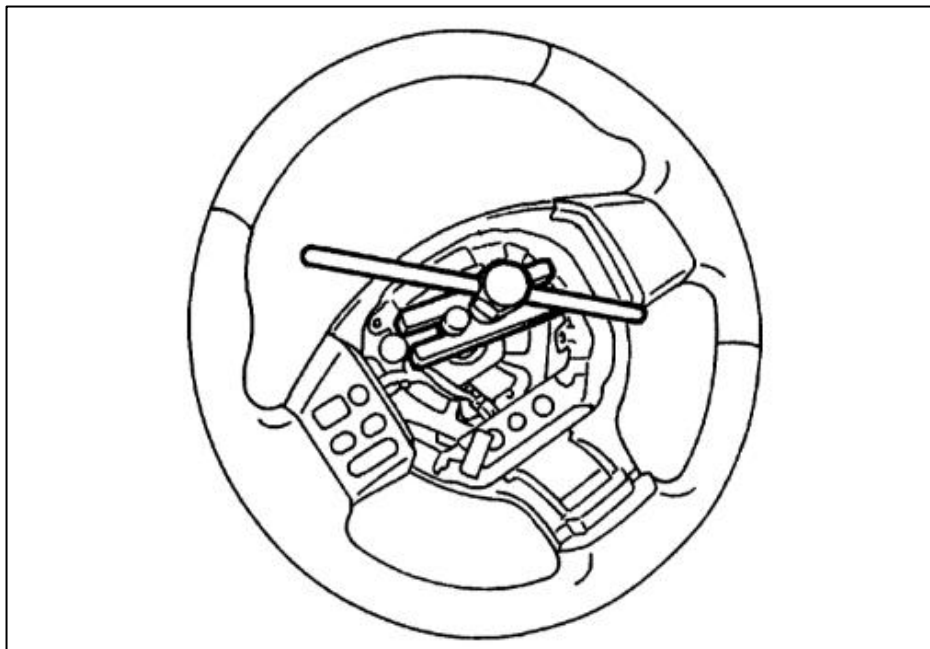

Figure 6
11. Using a Steering Wheel Puller, remove the OE Steering Wheel. If you do not have a Steering Wheel Puller, grab the Steering Wheel at the top and bottom and rock the wheel back and forth to loosen it. *Figure 6.*